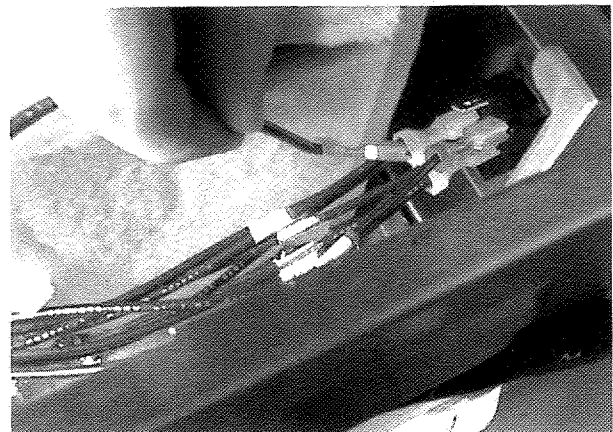

Figure 25
3. Remove the wires from the switch. Check across the terminals — top and bottom terminals on the left side of the switch, and top and bottom terminals on the right side. In the ON position the switch should show continuity. If switch is defective, replace it and proceed with procedures. (See Figure 25)